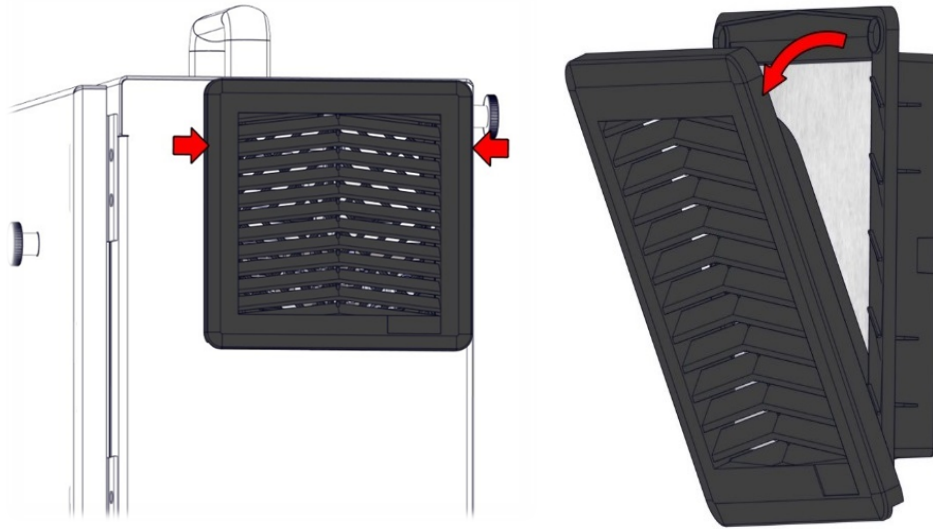

Figure 3.7. 更換控制箱過濾器。
1. Gently remove the outer plastic frame by pulling where the red arrows are, as shown in the images below in figure 3.7. 框架向外傾斜。